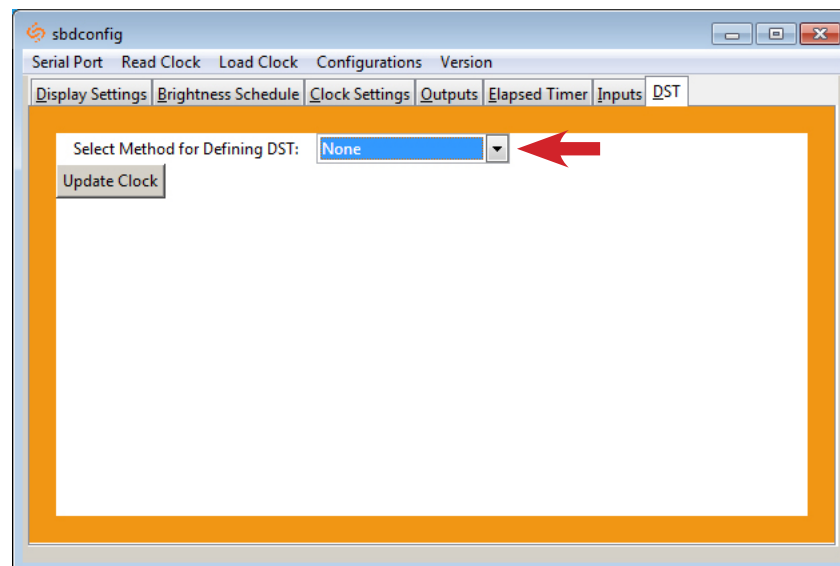

Fig. 7
- **None:** When this option is selected, Daylight Saving Time is not applied. (Fig. 7)